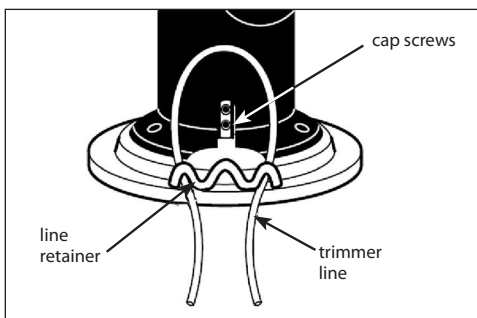

FIGURE 10: Threading the new trimmer line.
3. First, thread the ends of the new trimmer line through the outside loops. **SEE FIGURE 10**